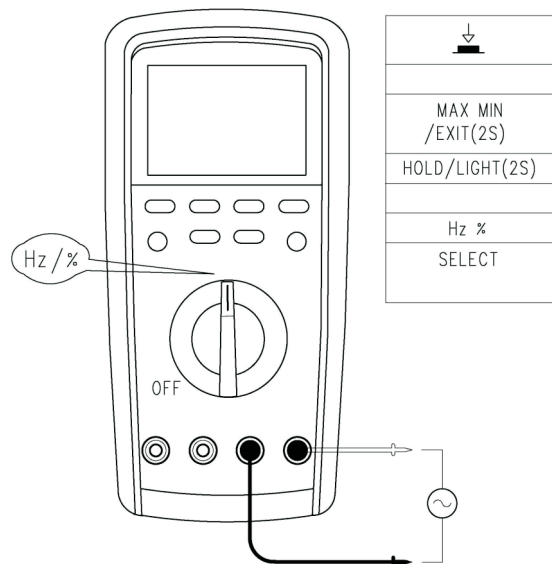

Figure 8
6. Measuring of frequency/duty ratio (see Figure 8)